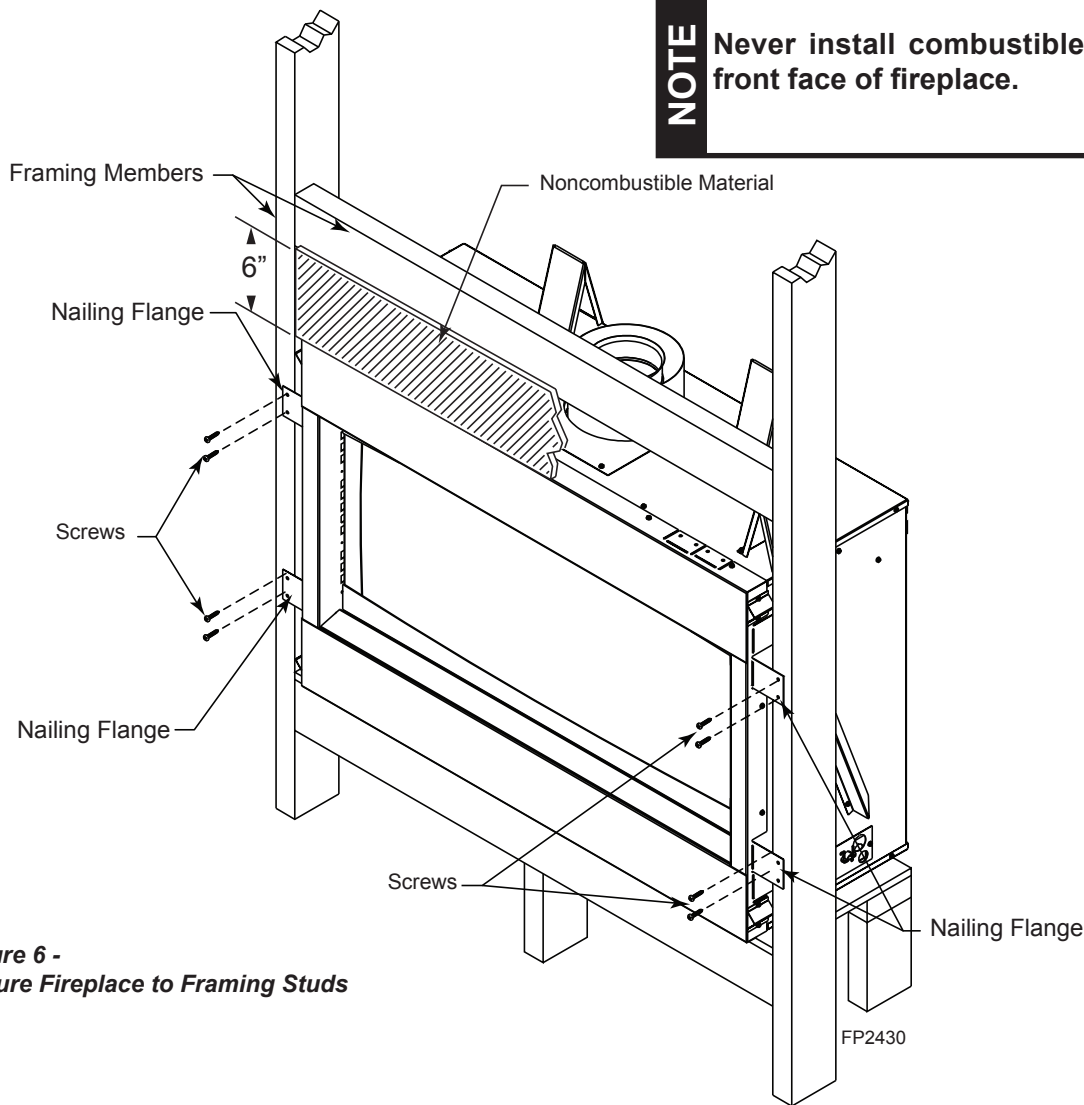

Figure 6 - Secure Fireplace to Framing Studs
The fireplace must be secured to the floor and/or to framing studs as shown in *Figure 6*. Use two (2) wood screws or masonry/ concrete screws to secure fireplace to the floor. Use four (4) screws to attach fireplace to framing. The side nailing flanges are 1/2" or 5/8" to accommodate different wall thickness.